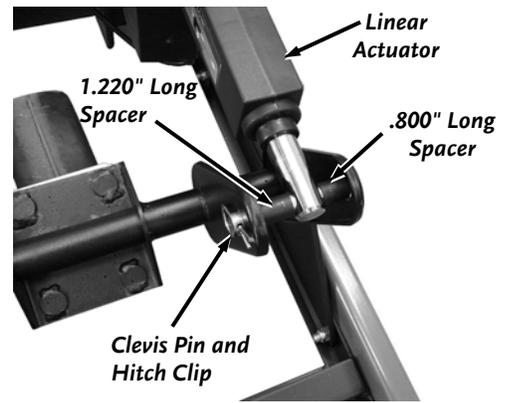

Figure 8
18. Remove the Hitch Clip, Clevis Pin, and the two Spacers from the Axle Clevis. Align the Actuator Arm and re-insert the Clevis Pin with the Spacers (one on each side of the Actuator Arm). Secure the Clevis Pin in place with the Hitch Clip (**Figure 8**).